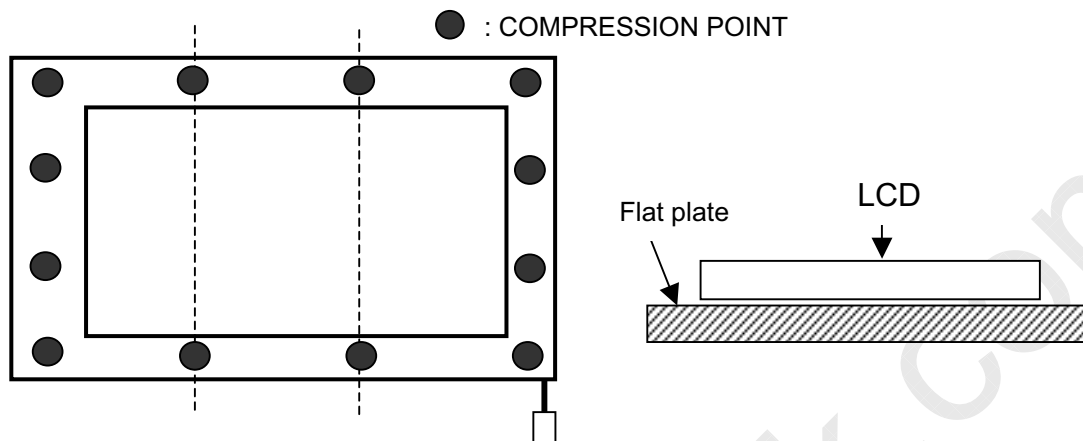

Fig 1-3-1
| Pressure Resistance                     | No Destruction with the force 196 N (20 kgf, 16 mm in diameter) to the display surface at the vertical direction               |                                                                                                         | Non OperationFig 1-3-1                                                                            |
- (a) Compression point : 12 points ( refer to Fig 1-3-1)